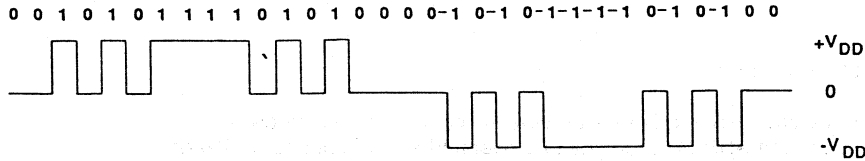

Fig. 4 Tone output example
The ringer output (BZ) is differential and is intended for low ohmic devices. If the ringer is switched off then both outputs are low. The output signal is a pulse density modulated block wave (on a 32 kHz basic pulse rate) to generate a sinewave-like output signal, see figure 4. Volume is controlled by changing the pulse width of each pulse. In the square wave mode a full square wave is generated and results in the maximum volume. The volume settings (in dB) are given for the first harmonic signal component.